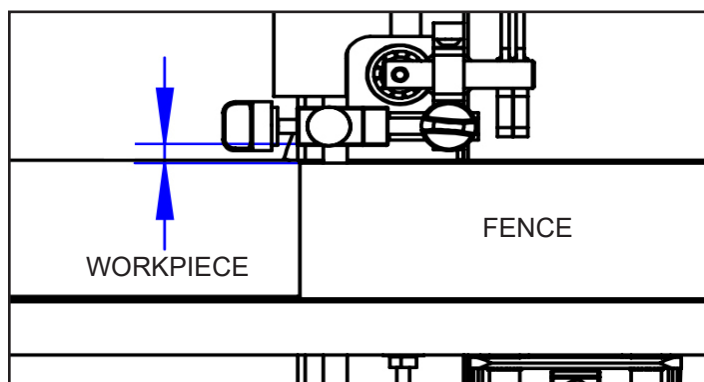
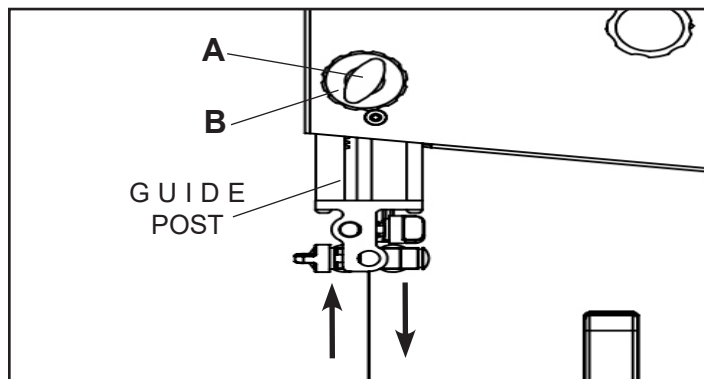

FIGURE 22
FIGURE 23
NOTE: Before cutting, set the upper guide bearings approximately 1/4" above the top surface of the workpiece. This will give the best blade control. FIG. 22.
1. Loosen the Guidepost Lock Knob (#97, FIG. 23, A) and turn the Guidepost Handle (#101, FIG. 23, B) to raise or lower the guide post/upper blade guide assembly to the desired height above the table or workpiece. FIG. 22 & 23.